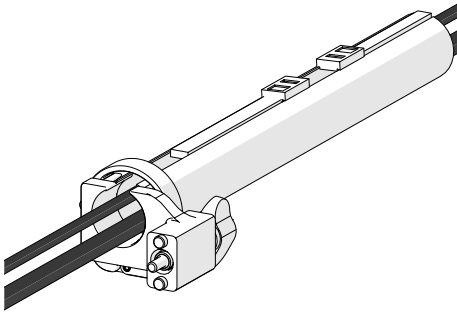

**Fig. 235** - Insert cables and hoses
1. Open the zipper tube. Begin at the clamp end and start placing the cabling in the tube (*Fig. 235*).